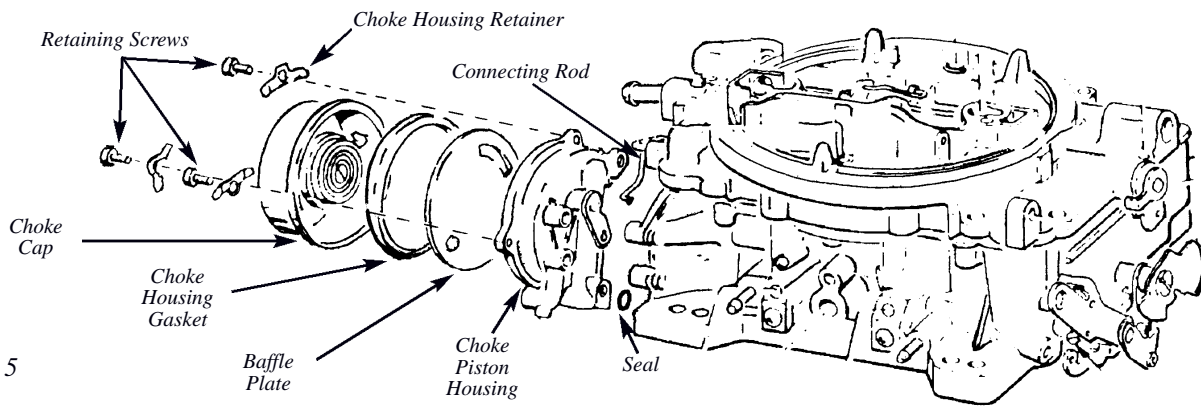

FIGURE 5
10. Place the connecting rod into the keyed slot of the choke housing lever (Figure 5). Place the choke piston housing seal into the cast recess of the choke housing.
13. Install the baffle plate with the indentation facing the carburetor (Figure 5). Install the choke cap and cap gasket using the supplied retainers and screws. When doing so, attach the black ground wire by placing the eyelet end of the wire between the designated screw and retainer (Figure 4).